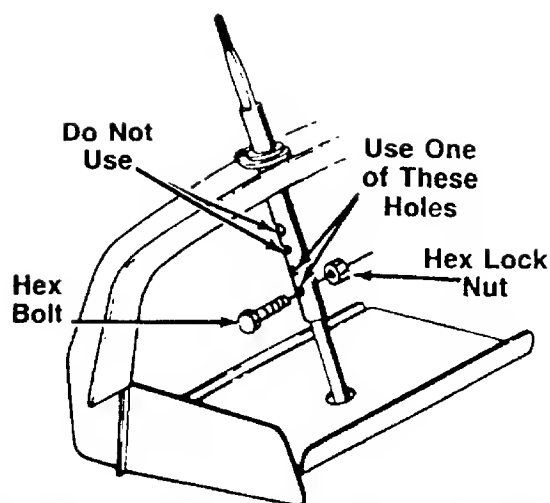

FIGURE 3.
2. For shipping purposes, the upper steering shaft is pushed all the way down over the lower steering shaft. Pull the upper steering shaft up. The holes in the shaft provide steering wheel height adjustment. When securing the two halves of the steering shaft, select one of the two lower holes in the upper shaft as shown. **Do not** use the two upper holes. Secure with hex bolt and hex lock nut. See figure 3.